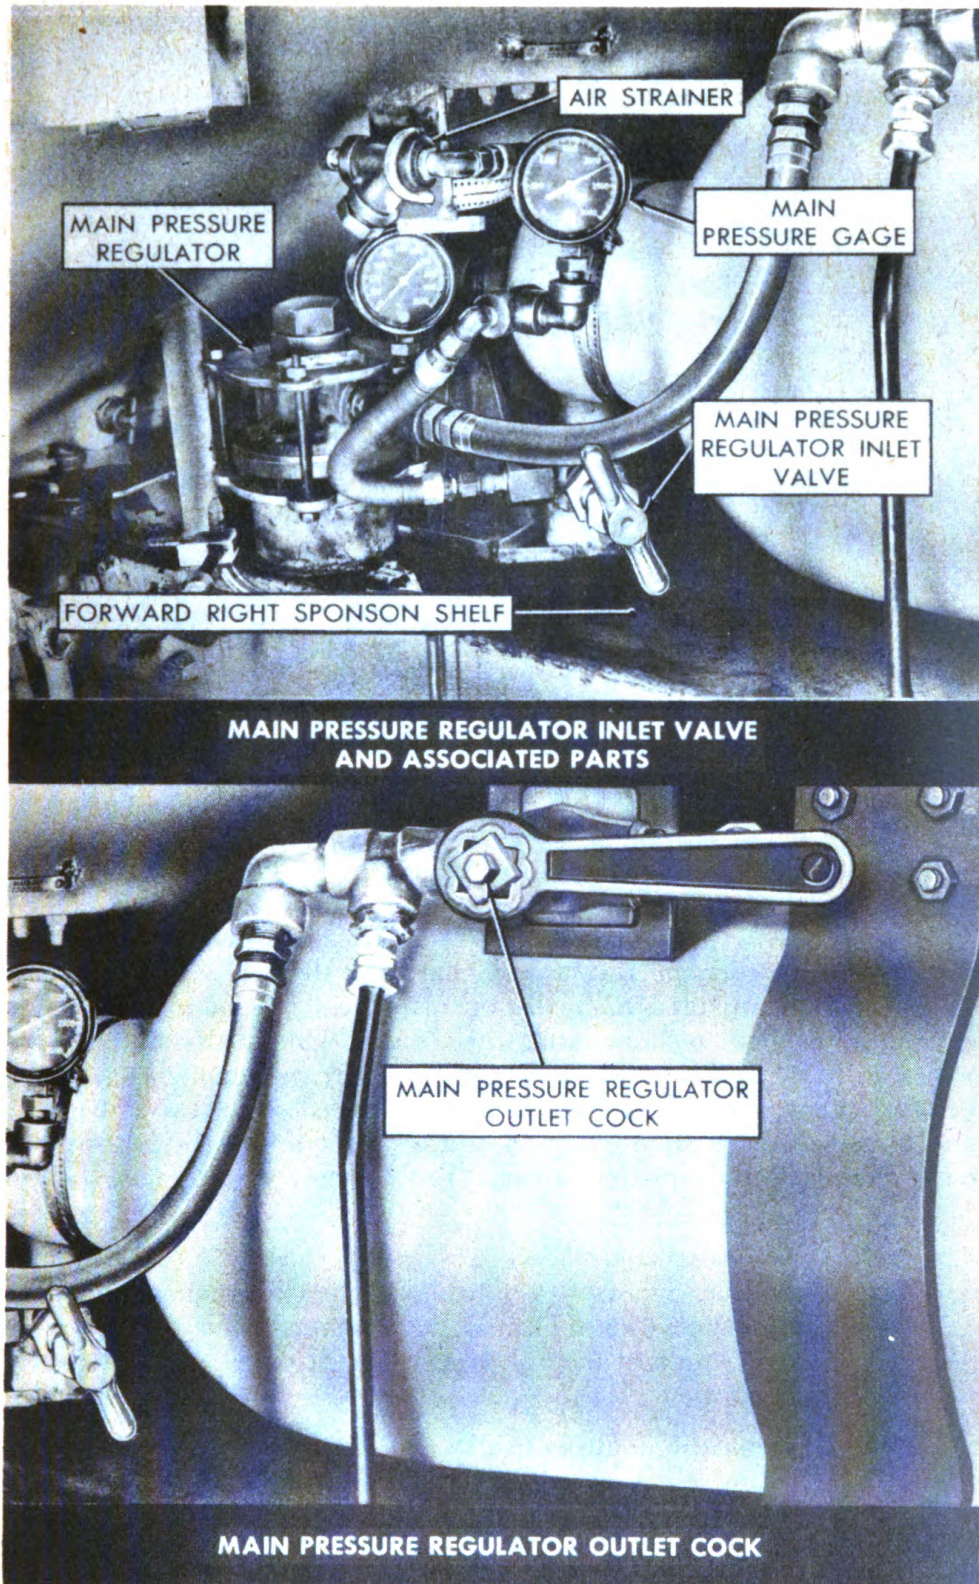
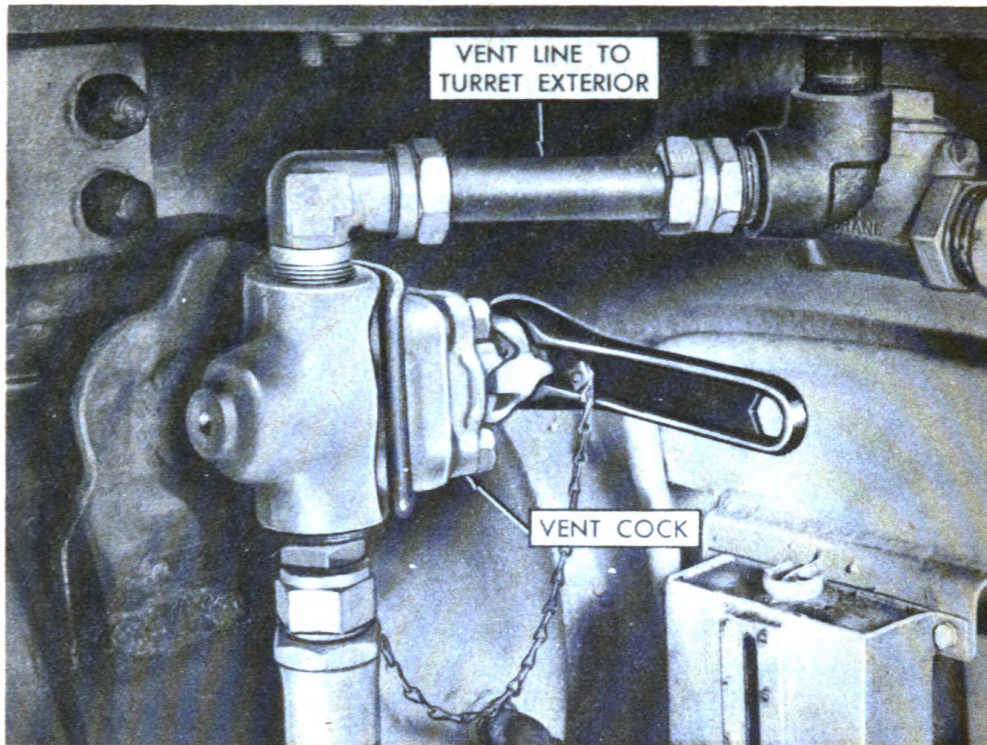
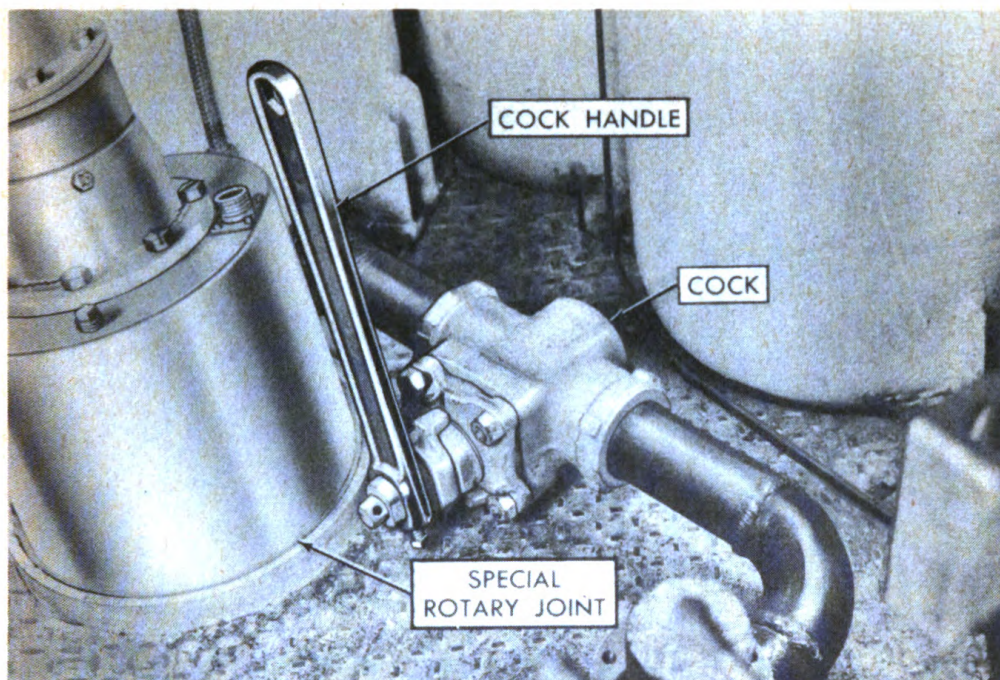
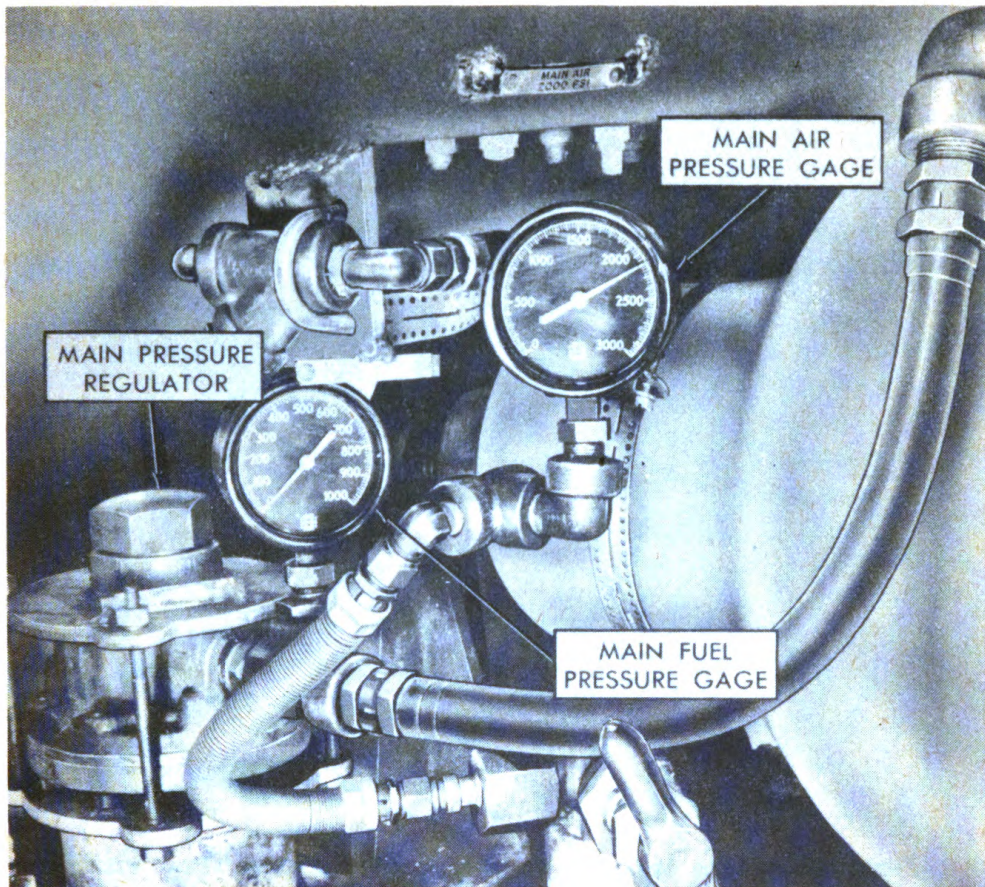

Figure 11—Controls on forward right sponson shell.
Figure 12—Main fuel vent cock.
Figure 17—Emergency fuel shut-off cock.
Figure 20—Gages at main pressure regulator (close to assistant driver's position).
(2) *Main pressure regulator inlet valve (high pressure air)* (fig. 11). This is a 1/2-inch globe valve which permits pressure (2,000 pounds per square inch) to enter the inlet of the main pressure regulator from the hull pressure system. It is located on the right sponson shelf to the right of the assistant driver and is usually operated by him. To open valve, turn handle counterclockwise; to close, turn handle clockwise.
(3) *Main pressure regulator outlet cock* (fig. 11). This is a 1-inch cock. It is used to control passage of pressure (375 to 400 pounds per square inch) from the main pressure regulator outlet to the main fuel system. It is bracketed to the roof of the right sponson behind the assistant driver and is usually operated by him. To open cock, turn handle counterclockwise one-quarter turn; to close, turn handle clockwise one-quarter turn.
(4) *Main fuel vent cock* (fig. 12). When opened, this 1-inch cock vents pressure from the main fuel system or, when filling with fuel, allows for release of the air displaced from the main fuel containers. It is bracketed to the rear part of the right sponson pressure container and discharges through the hull roof into a pipe near the right hull ventilator. This cock must be open when filling the flame thrower with main fuel because the line in which it is located serves both as a vent and
(7) *Emergency fuel shut-off cock* (fig. 17). To enable the gunner to shut off main fuel flow to the gun immediately in an emergency, a 2-inch cock is located on the turret floor in the fuel line leading from the outlet of the basket main fuel container to the flame gun. This valve must be kept open during fuel filling operations, testing for leaks, or firing. This valve may be closed as a safety precaution when the filled and pressured unit is held for extended periods prior to undertaking a mission. To open, push handle downward to floor of basket to horizontal position (one-quarter turn counterclockwise). To close, lift valve handle extension to vertical position (one-quarter turn clockwise).
(1) *Main pressure regulator* (fig. 11). This is used to reduce pressure
a. Main air pressure gages (figs. 20 and 21). Two main air pressure gages (3½-inch dial heavy duty pressure gage reading from 0 to 3,000 pounds per square inch) are located in the hull. One, in the right sponson, is adjacent to the assistant driver's position. The second gage, visible to
b. Main fuel pressure gage (fig. 20). A main fuel pressure gage ($3\frac{1}{2}$ -inch dial heavy duty pressure gage reading from 0 to 1,000 pounds per square inch) is located on the outlet side of the main pressure regulator in the right sponson. It indicates the pressure at which the main pressure regulator is set to discharge, or to which the main fuel is charged.
e. *Slowly* open main pressure regulator outlet cock (fig. 11) and emergency fuel shut-off cock (fig. 17).
f. Slowly open main pressure regulator inlet valve (fig. 11), watching the main fuel pressure gage (fig. 20). If this gage indicates over 400 pounds per square inch, close main pressure regulator inlet valve (fig. 11) and vent the main fuel system by opening main fuel vent cock (fig. 12) (par. 10 c (4)) until pressure is 350 pounds per square inch. Then adjust main pressure regulator as in paragraph 57 b until pressure is 375 to 400 pounds